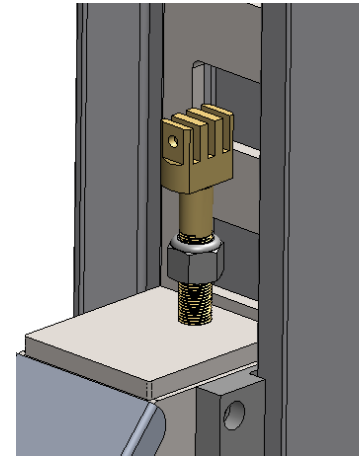

Figure 18
42. Loosen the top chain anchor 5/8" nut on the front lift side cross-beam as shown in *Figure 18*.